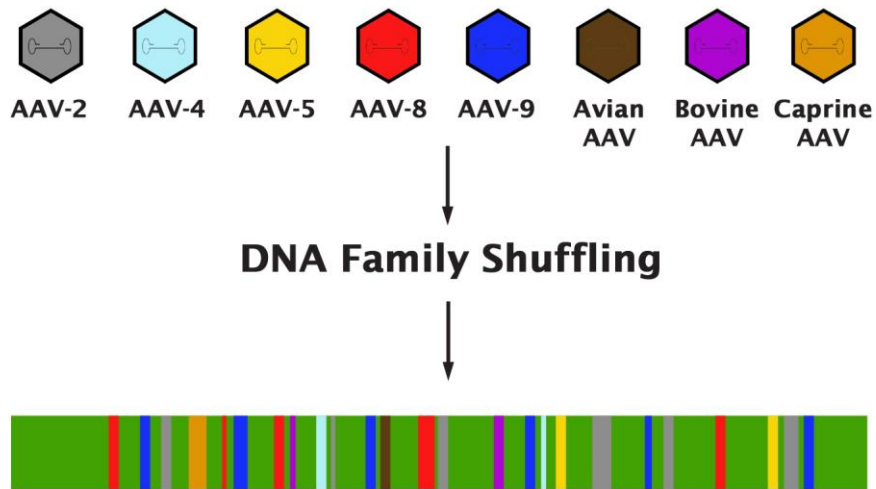

Figure 3. Generation of AAV-DJ through capsid DNA family shuffling.
different wild-type viruses (Figure 3). Stringent selection of AAV variants on human liver cells and with human anti-AAV antisera result in AAV-DJ (a clone named after the first two authors, see ref. 11), and AAV-DJ/8 (a heparin binding domain mutant of AAV-DJ). Recombinant AAV-DJ vectors mediate superior in vitro transduction efficacies in comparison with any other wild type serotypes. Transduction on cell types from different species and tissues, including primary human hepatocytes, melanoma cells, and embryonic stem cells, showed that AAV-DJ vectors were not only superior to all HBD-negative wild-type viruses (up to 100,000-fold better than AAV-8 or AAV-9), but also substantially better than AAV-2. (See Table 2 for detail). The heparin binding domain (HBD) plays important role for in vivo viral infection as demonstrated by comparing AAV-DJ to the DJ/8 mutant: HBD deletion alleviated the liver restriction and expanded transduction to all nonhepatic tissues, including the brain, identical to the transduction patterns of AAV-8 and AAV-9.